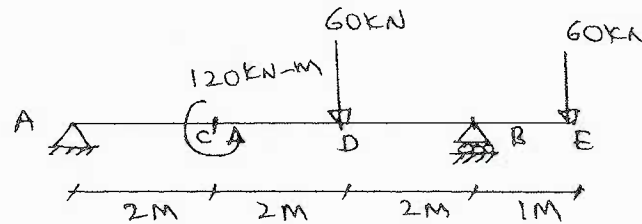

Fig. Q6 (b)
- b. Draw SFD and BMD for the load diagram, shown in Fig. Q6 (b). Mark the values at salient points. (10 Marks)